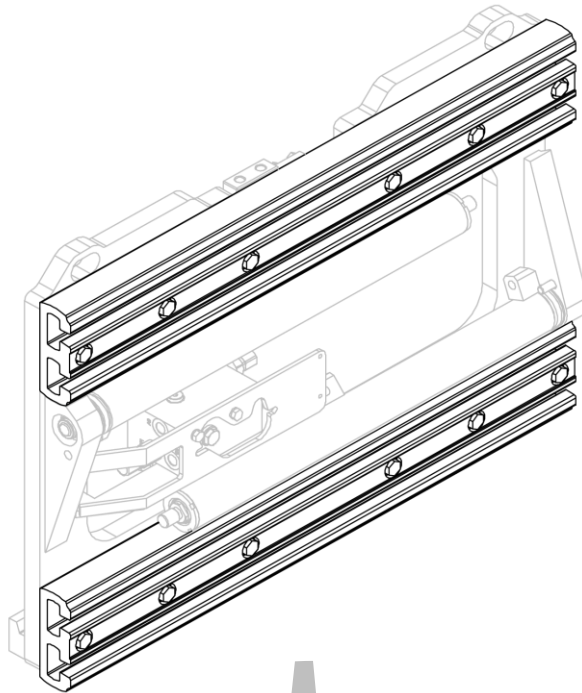
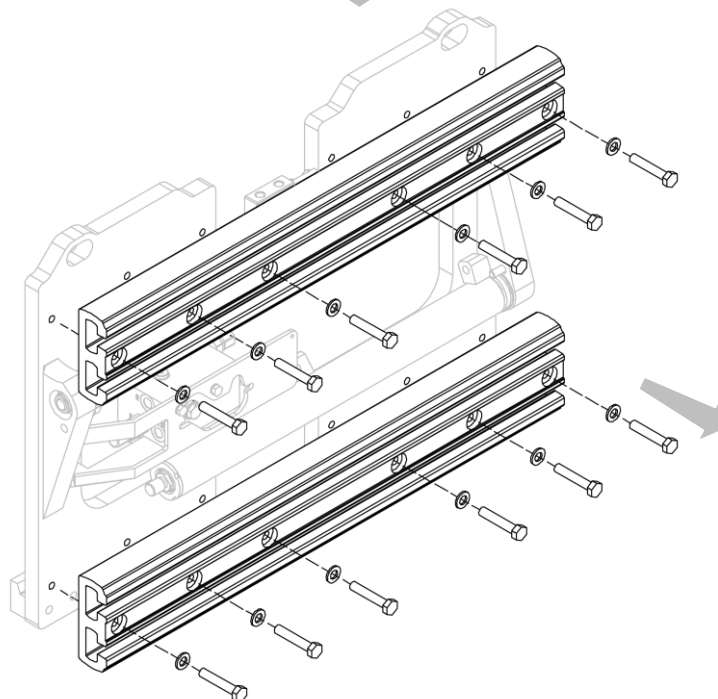

Figure 29
Figure 30
2. Remove the aluminium profiles, one at a time, after unscrewing the bolts (see *Figure 29* and *Figure 30*).